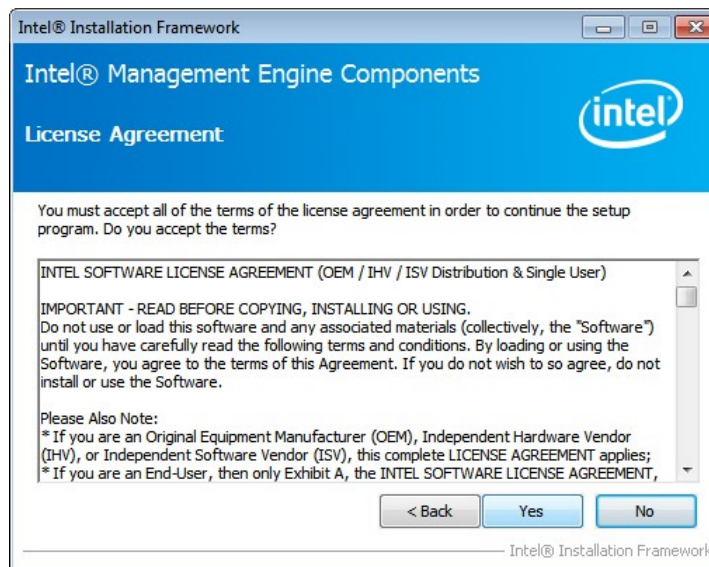

Figure 6-28: Intel® ME Driver License Agreement
Step 6: The license agreement in **Figure 6-28** appears.